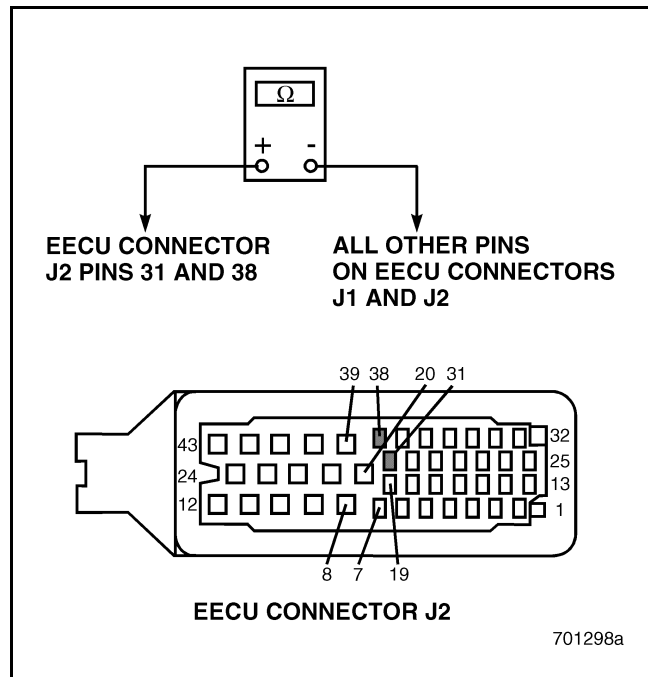

Figure 626
5. Check for continuity between EECU connector J2 pins 31 and 38 versus all other pins on EECU connectors J1 and J2 (see Figure 626).